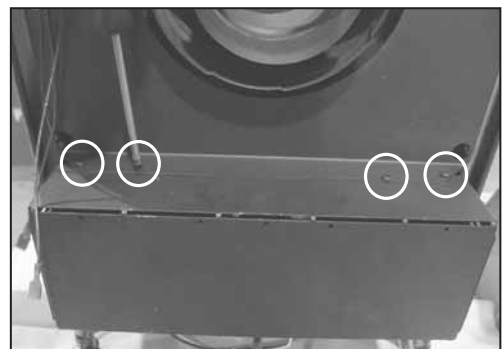

Figure 14
3. Holding the blower in place, attach it to the appliance with four of the screws provided. **Figure 14.**